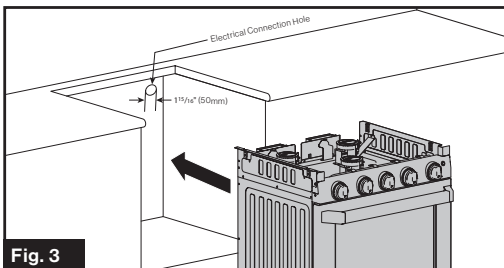

Fig. 3
4. Slide the range oven into the cabinet opening. Verify that the oven is level from side to side and front to rear. (Fig. 3)